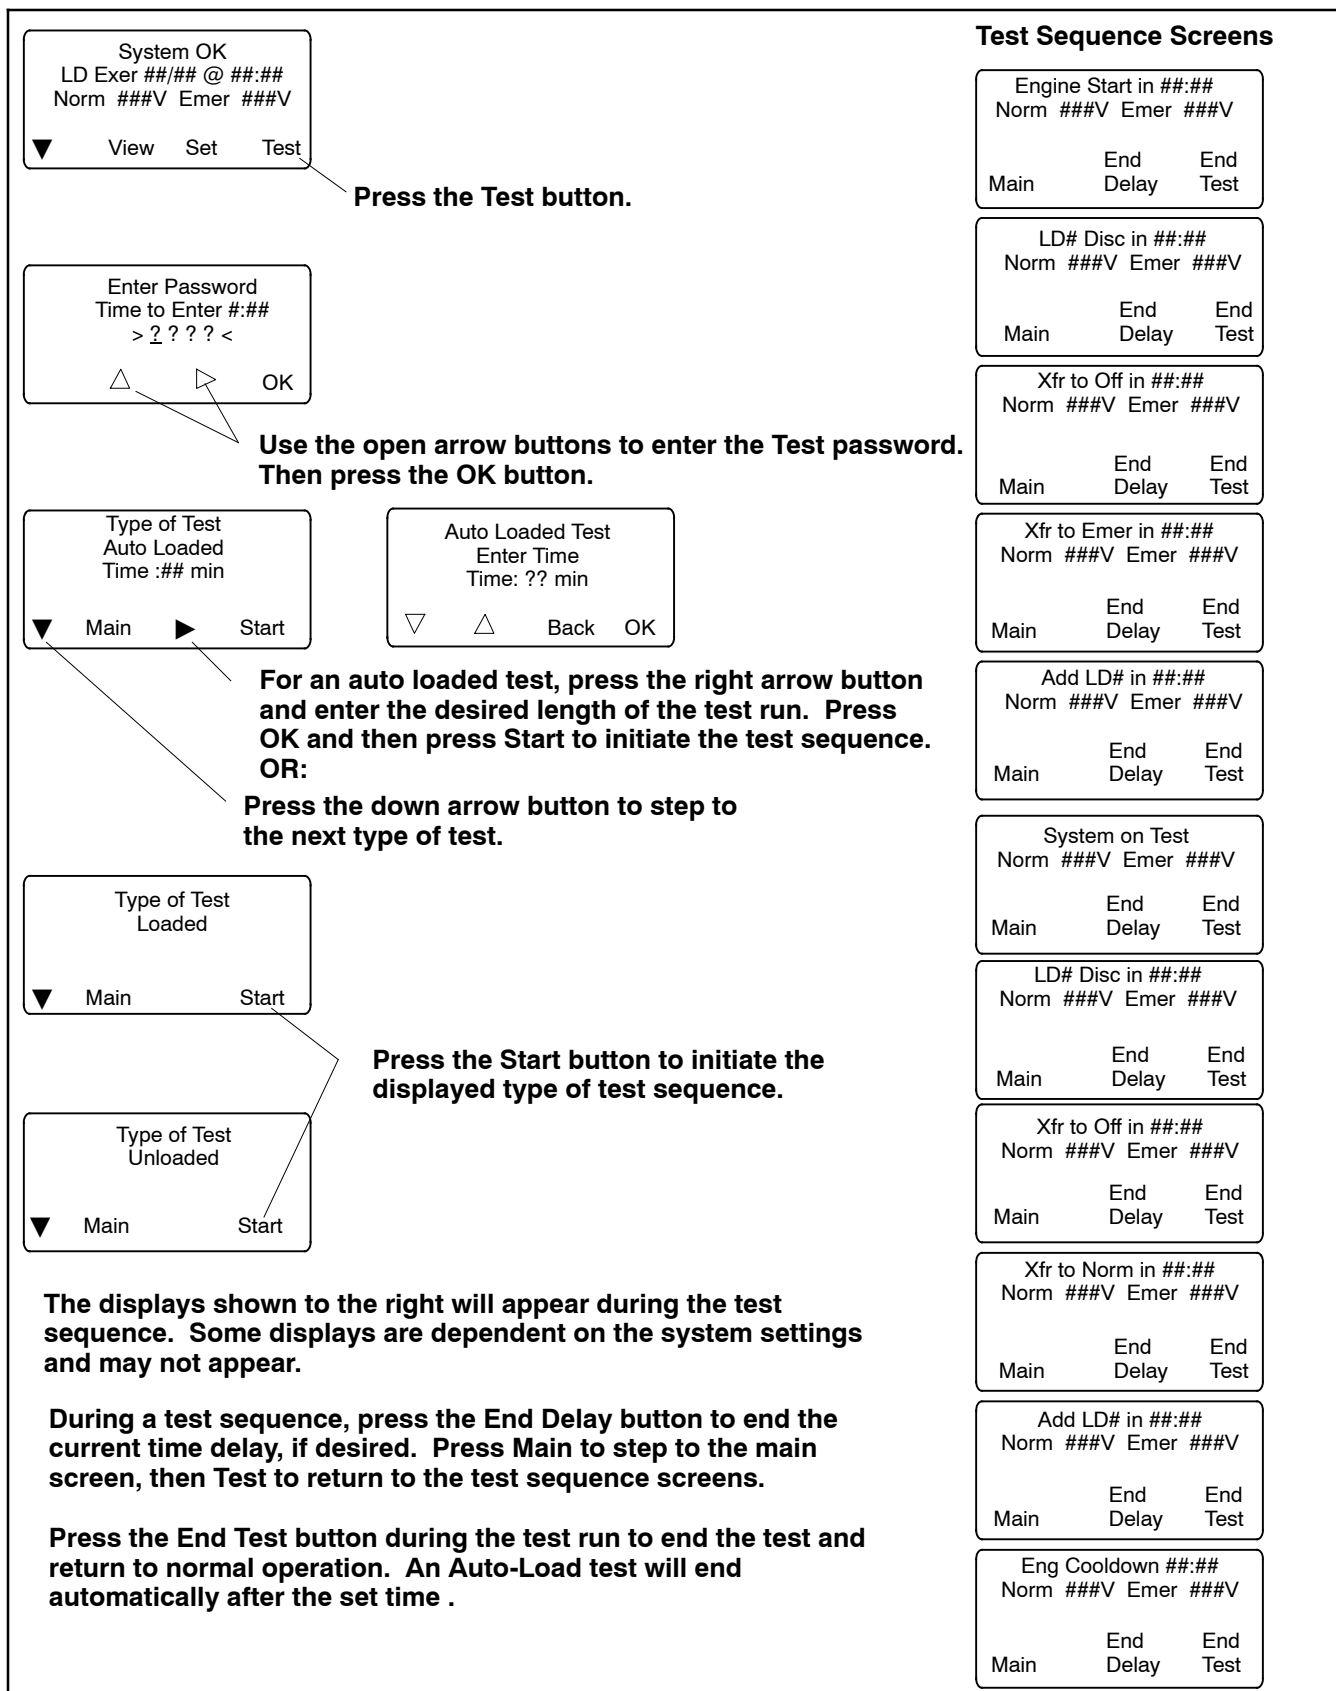

Figure 6-10 Test Sequence Screens, MPAC 1200/1500 controllers
3. Refer to Figure 6-10. From the main screen, press the Test button. Enter the test password when prompted and press OK.